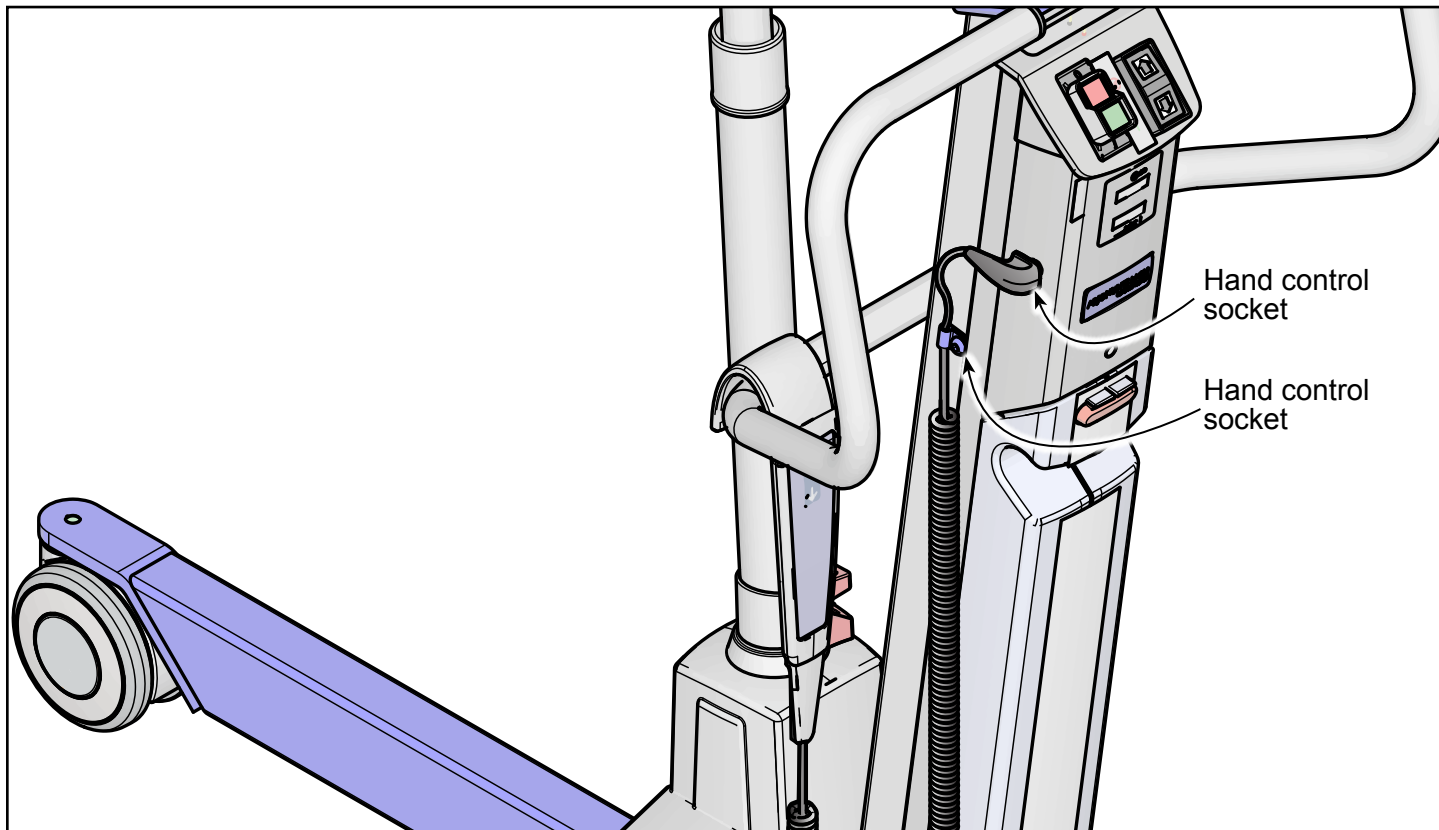

Fig. 29
3. Remove the cable from the bracket located on the side of the mast (see Fig. 29).